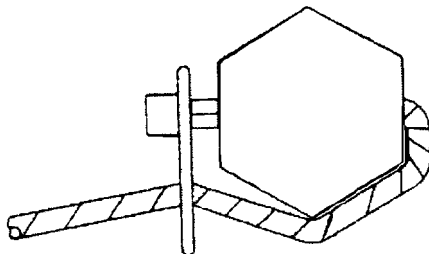

Figure 24. Self-Looping Safety Cable in High Bend Exit Applications.
b. In applications where safety cable shall be required to exceed the 135° maximum bend on a threaded fastener head, a self looping device which is secured to the safety cable by the safety cable manufacturer may be used to obtain a secured installation as shown (Figure 24).